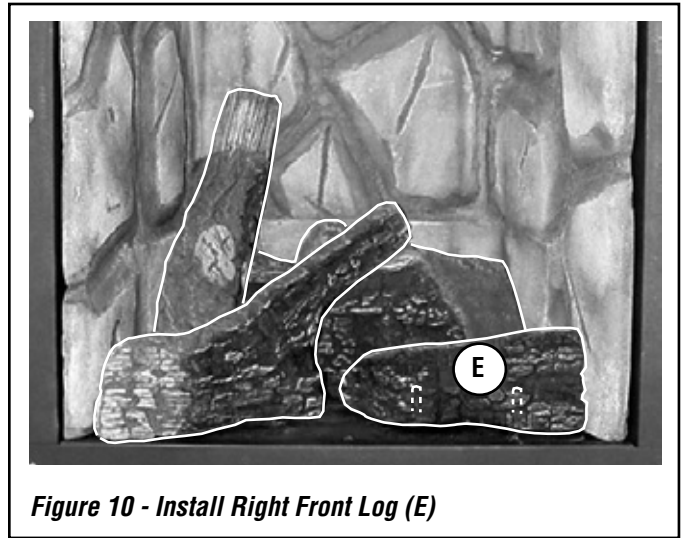

Figure 10 - Install Right Front Log (E)
4. Place the right front log (E) as shown in Figure 10. Position the hole on the bottom of log E over pins #4 and #5.